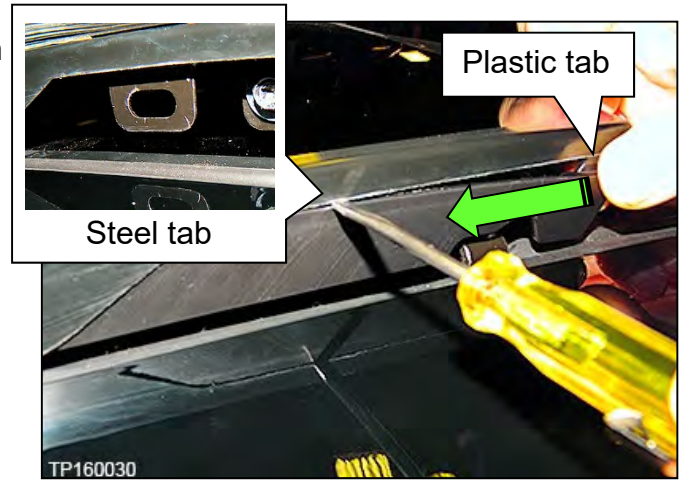

Figure 15
- b. Insert a pocket screw driver between the Moonroof bolt finisher and the Moonroof in the location shown in Figure 15.